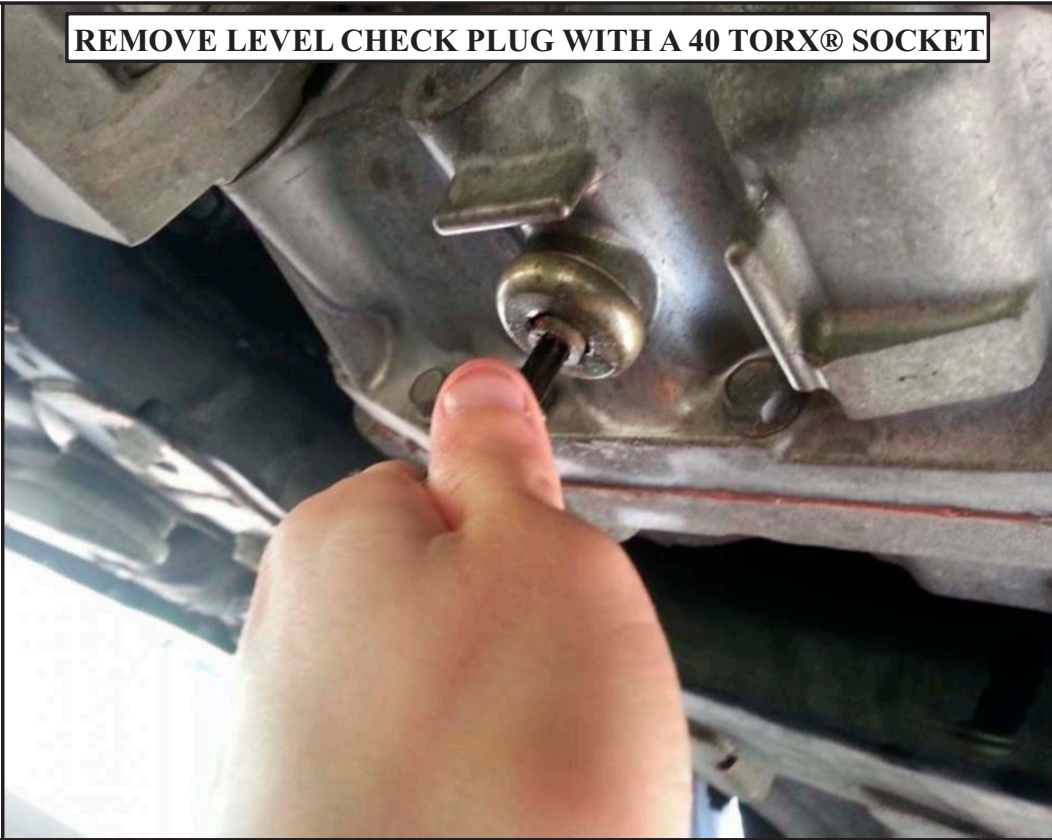

Figure 3
- 3 - Using a 40 Torx® socket, remove the center level check plug, refer to figure 3.